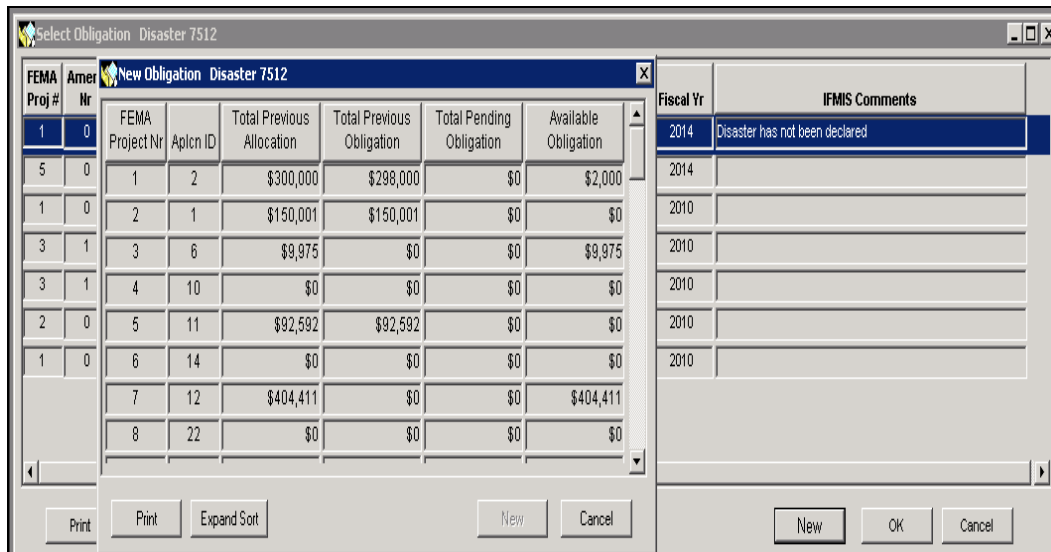

Figure 10-40: Mitigation > Funding > New Obligation
2. The Project List for New Obligation is displayed (Figure 10-40).